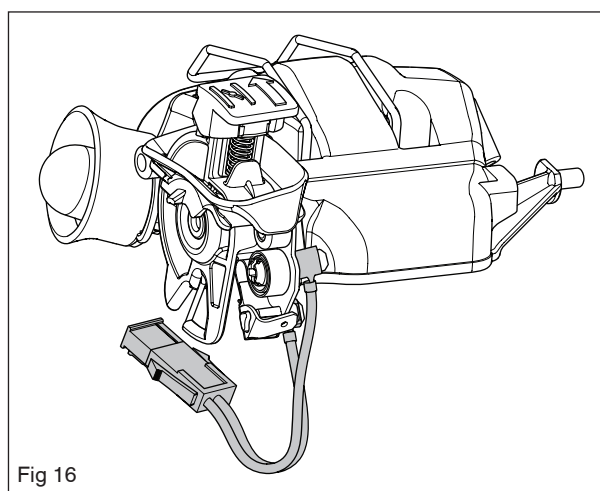

Fig 16
2. Attach the cables as outlined in figure 16.